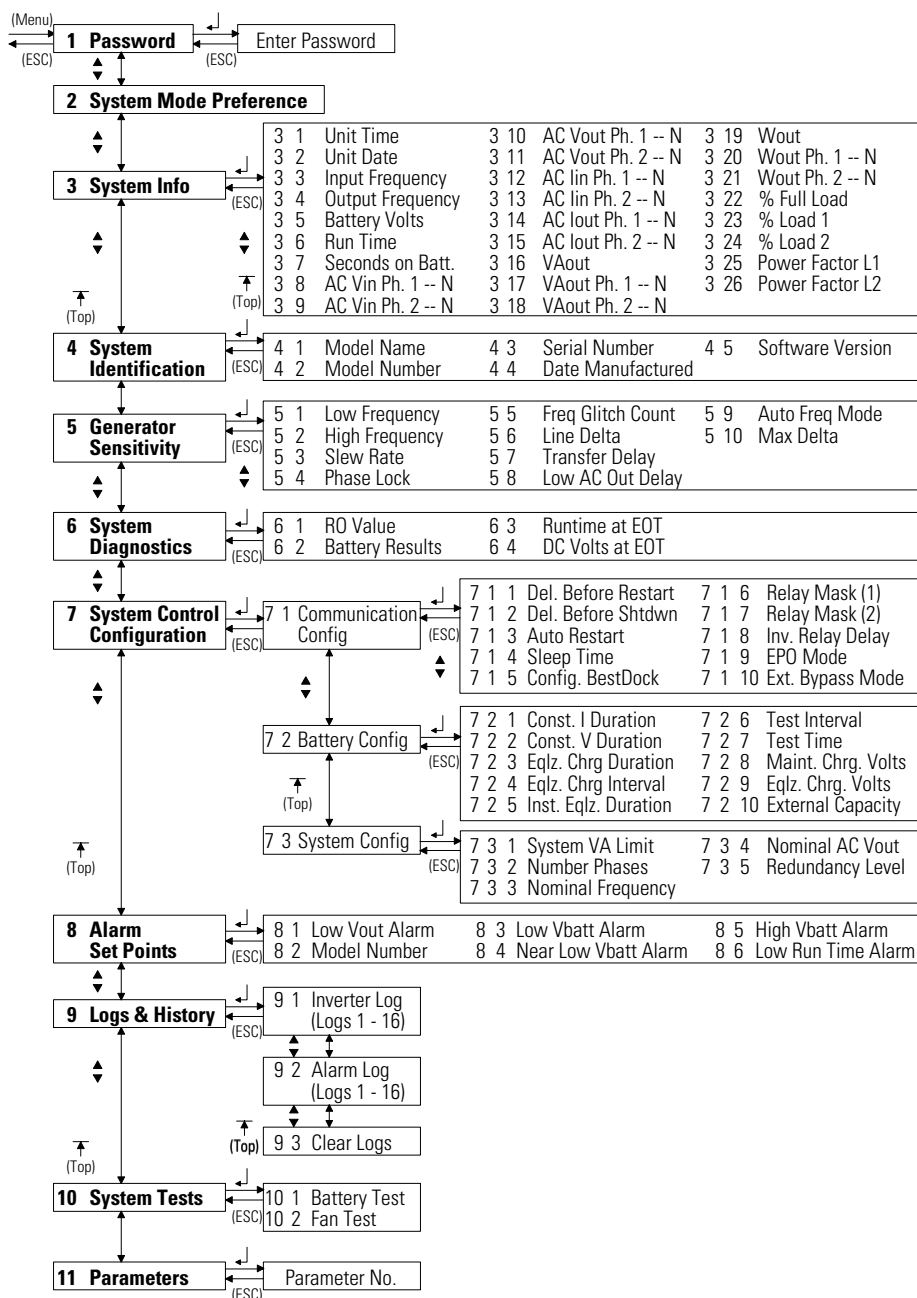

Figure 50. Powerware 9170 System Menu Map
One or two triangles at the right of the display tells you which arrow buttons are active for moving to various parameters within a menu level. See Figure 50 on page 68 for the complete system menu.
The method of changing any operating parameter follows the same procedure as setting initial parameters, as described in “Initial Startup Parameters” on page 56. Begin by entering the correct password to allow the change. Use the Menu Map (Figure 50 on page 68) to find the parameter you need to change, and move through the menu structure until the parameter name appears on the display. Press the \downarrow button to access the parameter value and, when you have changed the value, press the \downarrow button again to save the change. To avoid making a change, press ESC instead of the \downarrow button.
Figure 50 is an illustration of how to access all Powerware 9170 system parameters. The menu structure has 11 primary-level menus, named Password (1) through Parameters (11). Under each primary menu are secondary items, each numbered by its location under the primary menu. Use the various buttons as shown in the map to navigate to the desired parameter. If you need to change the value of a parameter, you must begin by entering the correct password value first. Parameter values can be observed, but most cannot be changed, even though you have entered the correct user password.